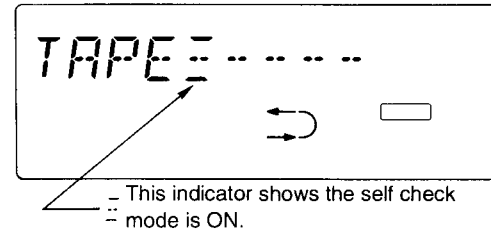

Fig. 1
2. Press the numeric keys "4" and then "7" on the remote controller while holding down the tape stop (□) button on this unit. The LCD indicators will appear as shown in Fig. 1.